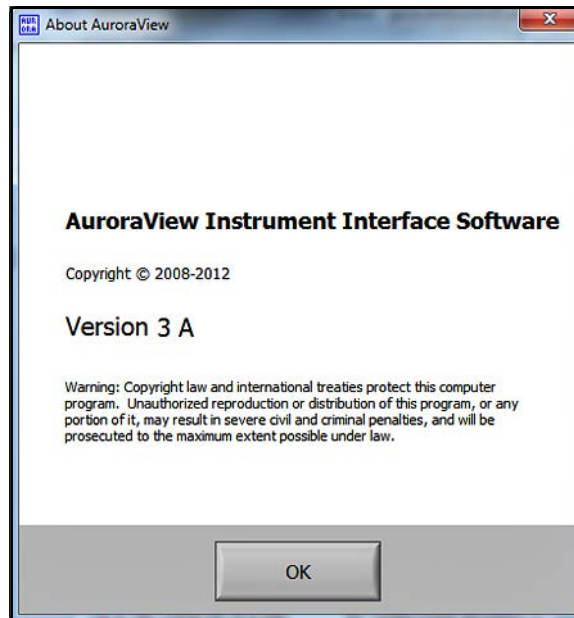

Figure 71: Software Information
6. Click **Help** (see *Figure 71* below).